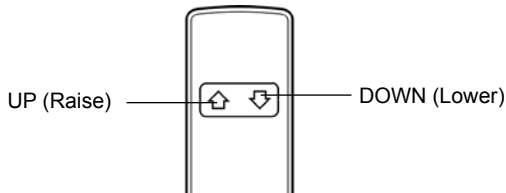

Fig. 8
7. Push the UP and DOWN buttons on the hand control and confirm the boom will raise and lower accordingly (Fig. 8).